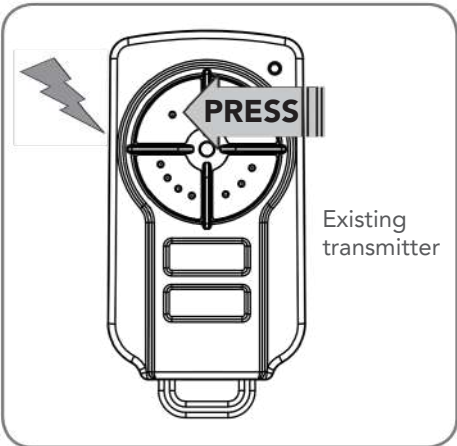

Fig 11.1
- a. Using the existing transmitter, operate the gate with the transmitter button which has the function to be coded (Fig. 11.1) (e.g. Button 1 has been coded with the OSC function assigned).